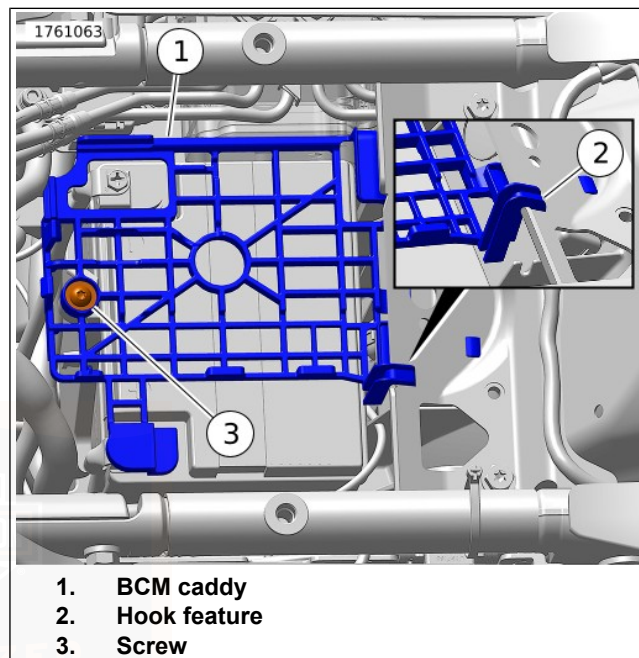

Figure 108. Removing/Installing BCM Caddy
9. See Figure 108. Remove screw (3) and BCM caddy (1).
7. See Figure 108. Install BCM caddy (1). Make sure hook feature (2) hooks on top of frame tab.
8. Install screw (3). Tighten.